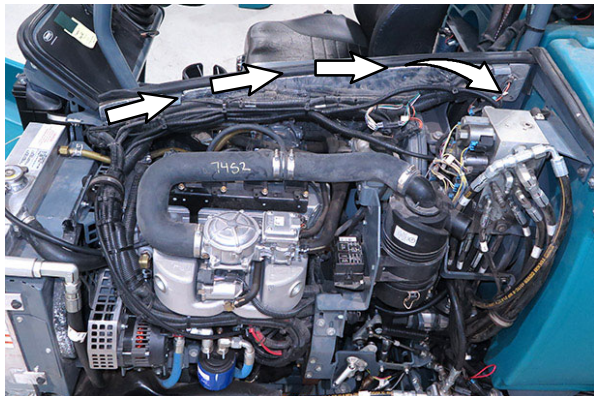
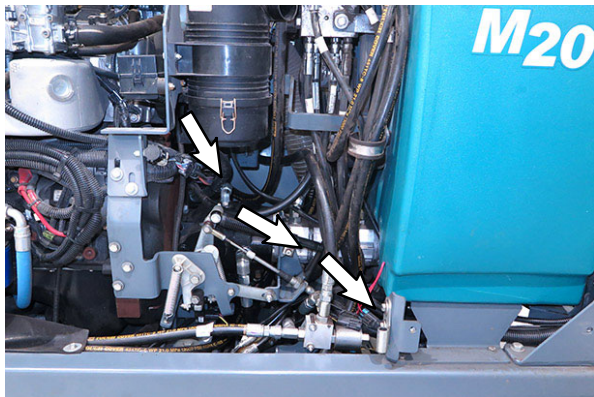

FIG. 15
FIG. 16
24. Continue routing the blue spotlight harness (14) rear blue light lead along the main wire harness, to the back of the engine compartment, and down the back of the engine compartment. (Fig. 15/ Fig. 16)